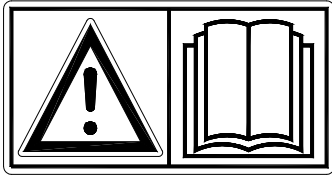

Figure 1
**Read and understand** (Figure 1) the manual *before* you start using the BLEC-Redexim machine.